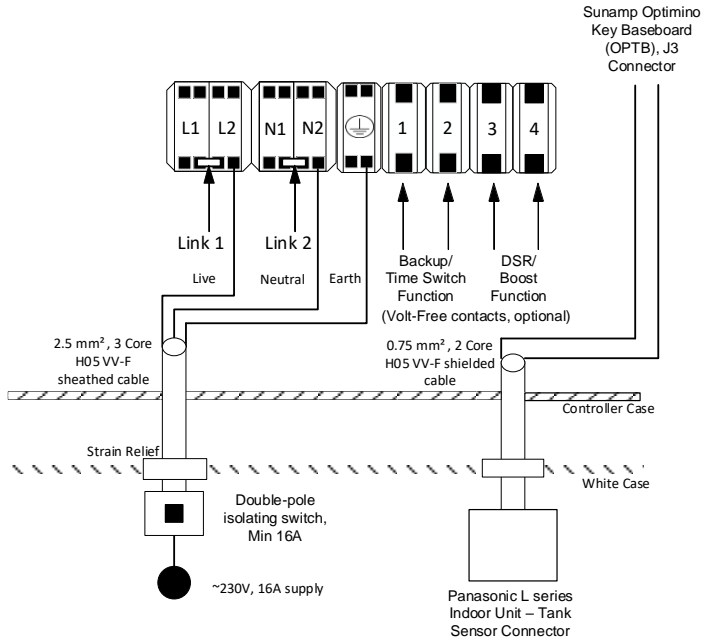

Figure PC.1 - Thermino xPlus with PC01 Optimino key
- Thermino xPlus with the “PC01” & “PC02” Optimino keys (D0084 – Section 6.4.2 for wiring instructions & Figures PC.1 & PC.2 below)
J3 on the Optimino Board; please see Figures PC.1 & PC.2 below for reference.